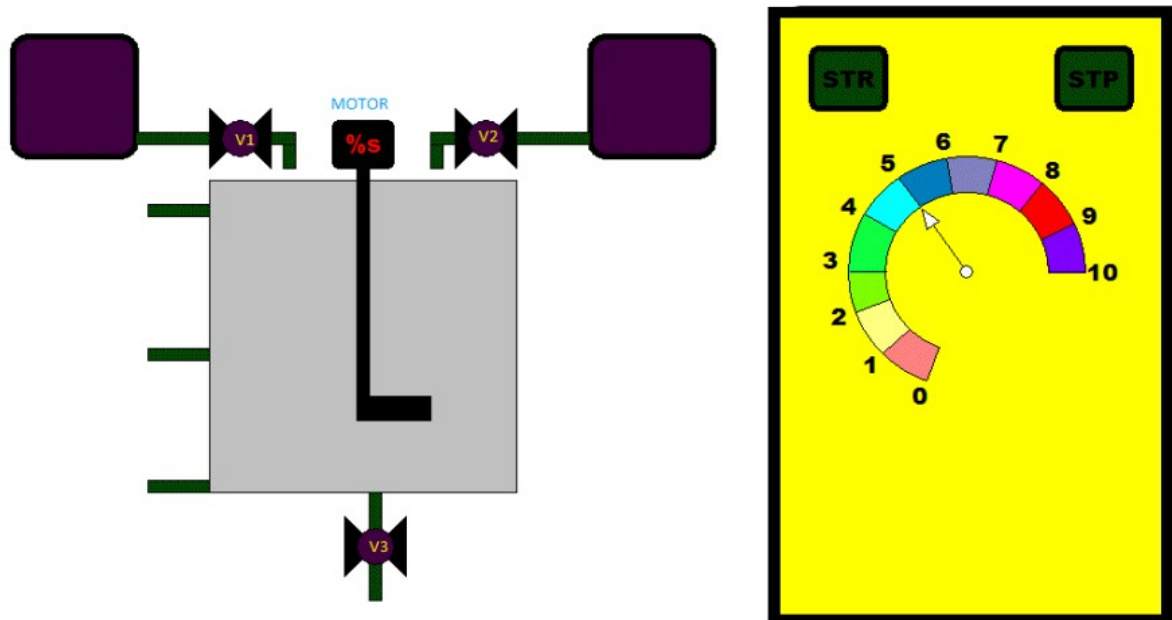

Figure Q1c
c) **Figure Q1c** is chemical mixing process when I0 is pressed, Q0/ V1 will get on resulting material 1 inlet to mixing tank. As material 1 comes in mixing tank, low level sensor I2 will get on and further middle level sensor I3 will be on. As I3 is on, Q0/ V1 should get off and Q1/ V2 should get on. As V2 is on, material 2 will come in mixing tank resulting increase in level and reaches to I4 sensor. As I4 is on, Q1/ V2 will get off and motor Q2 will get on for 10 seconds. After 10 seconds, motor gets off and drain V3 gets on. As drain is on, mixing tank will start getting empty. Slowly level will go down resulting I4 off, I3 and I2 sensors off one by one. As I2 is off repeat the process. I1 is manual stop. Write a PLC program (ladder diagram) for the process.